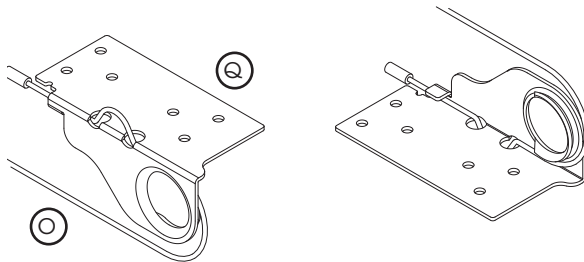

Fig: 2.2.1
- b) Insert each lifting cable (⊙), through the holes of the left and right bottom hangers (Ⓚ) Fig 2.2.1.